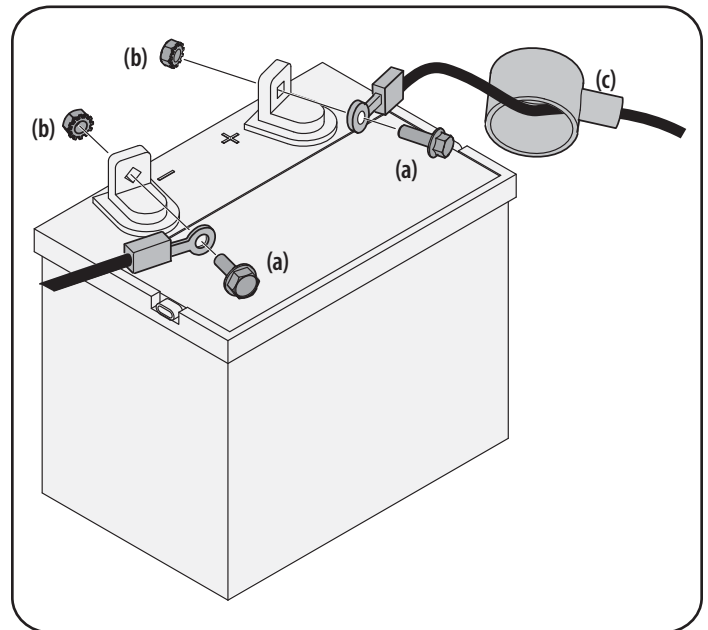

Figure 3
3. Remove the plastic cover, if present, from the positive battery terminal and attach the red cable to the positive battery terminal (+) with the bolt (a) and hex nut (b). See Figure 3.
4. Remove the plastic cover, if present, from the negative battery terminal and attach the black cable to the negative battery terminal (-) with the bolt (a) and hex nut (b). See Figure 3.